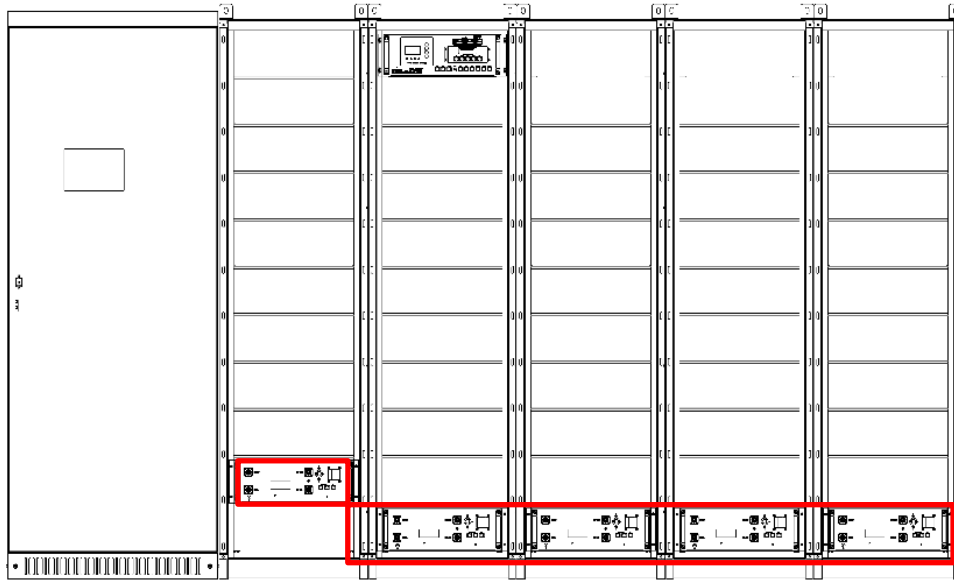

Figure 4.9 HV900112 boxes installation
- b. Put all the HV900112 boxes in the right places as Figure 4.9 shows.